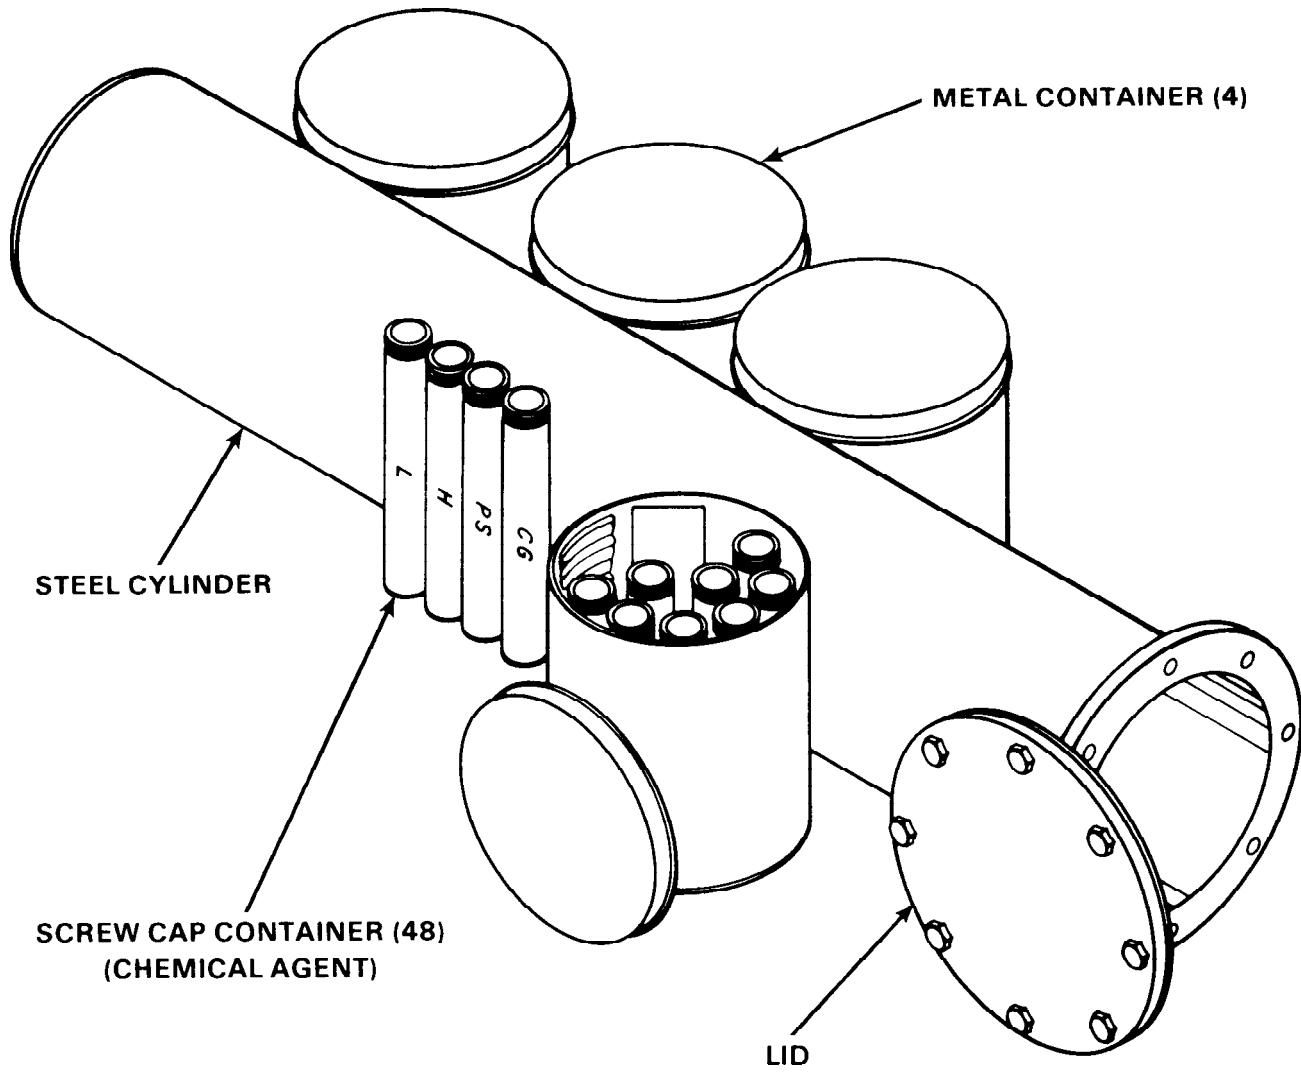

Figure 15-2.5. M1 Detonation War Gas Identification Set
15-2.5.2. Description. The M1 Gas Identification Detonation Set, Figure 15-2.5, consists of a cylindrical forged-steel shipping container 0.145 inch thick and approximately 38.00 inches long and 6.62 inches in diameter. The shipping container is sealed with a steel cover with lead gasket and secured by eight bolts. Four press-fit metal containers are packed in the steel cylinder. Inside each press-fit metal container are 12 cardboard screw cap containers, each containing a hermetically sealed glass tube approximately 7.50 inches long and 1.00 inch in diameter. Each of the four metal containers contain three tubes each of the following agents: Mustard (H), Lewisite (L), Phosgene (CG), and Chlorpicrin (PS). The agents in each of the four metal containers are as follows: